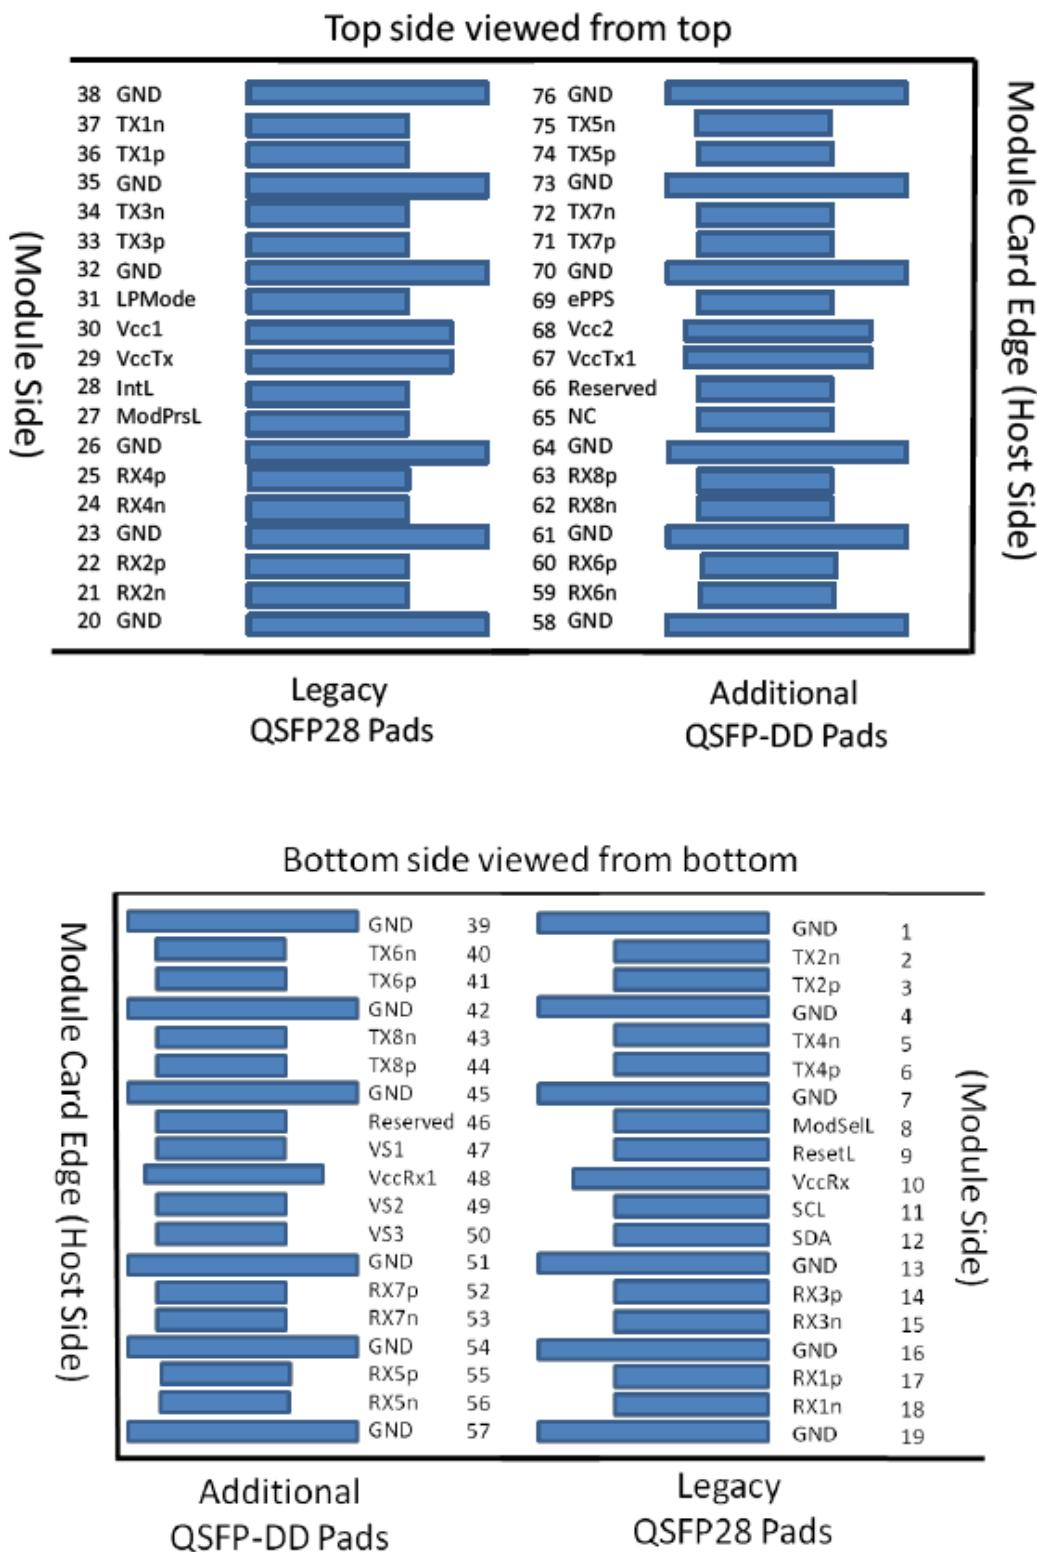

Figure2. Electrical Pin-out Details
4. Plug Sequence specifies the mating sequence of the host connector and module. The sequence is 1A, 2A, 3A, 1B, 2B, 3B. (see Figure 2 for pad locations) Contact sequence A will make, then break contact with additional QSFP-DD pads. Sequence 1A, 1B will then occur simultaneously, followed by 2A, 2B, followed by 3A, 3B.